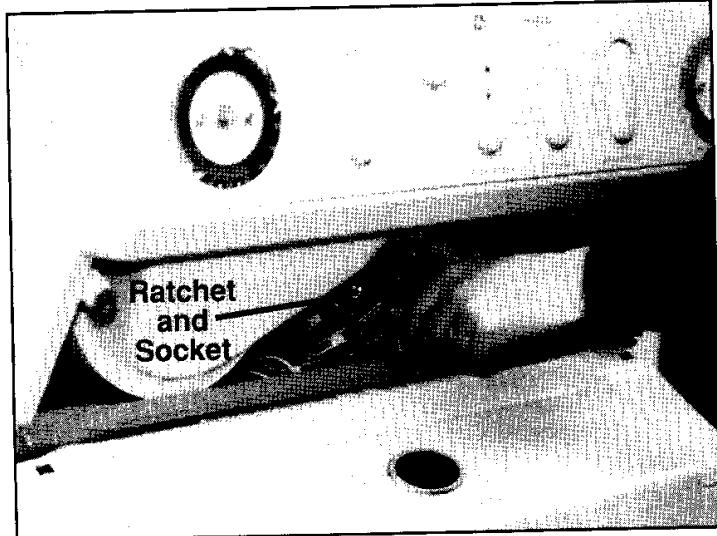

Figure 50
21. Secure the access cover to the base of the upper dryer using a ratchet and the #10 hex head access cover screw removed in step 20. (See figure 50.) **NOTE:** Apply rearward pressure on the access cover while applying final torque to screw.